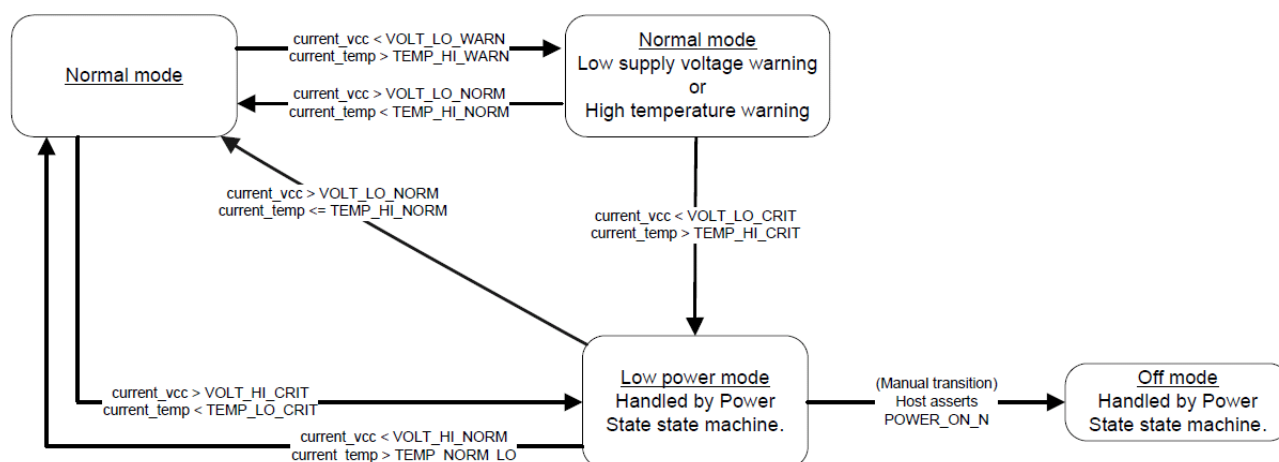

Figure 30. Automatic ('Triggered') Power State Transitions
- Automatically, when critical supply voltage or module temperature trigger levels are encountered. See Figure 30 for details.